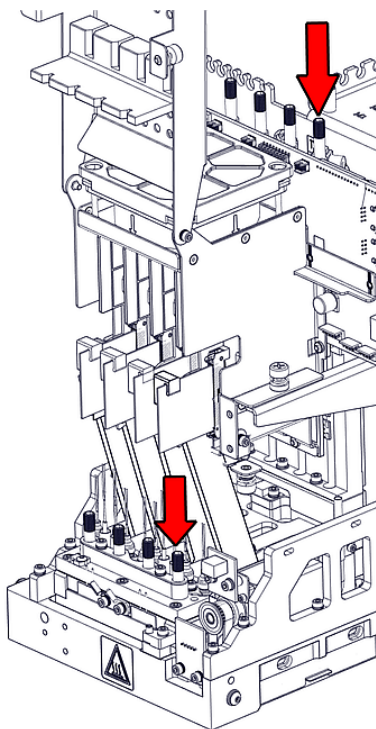

Figure 4-95 Releasing the print head
19. Tighten the upper and lower screws that secure the print head in the print block (see Figure 4-95 on the previous page).